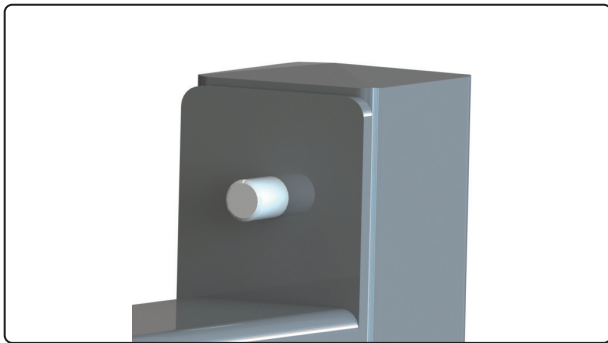

Figure 3 - Open Ended Bolt
6. Gather the Upper beam and align the holes. Use an M10 Hex Bolt, two M10 Washers, and one M10 Hex Nut to loosely attach the upper beam to the two vertical post as shown in figure 3. If adding an extension rack insert the M10 Hex Bolt from the inside toward the extension rack to make adding the extension easier.